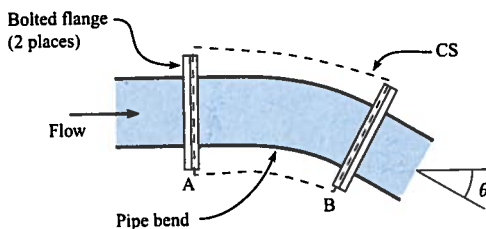

FIGURE 6.15
A **pipe bend** is a structural component that is used to turn through an angle (Fig. 6.15). A pipe bend is often connected to straight runs of pipe by flanges. A flange is a round disk with a hole in the center that slides over a pipe and is often welded in place. Flanges are bolted together to connect sections of pipe.
- **Tip 1.** Let each momentum flow equal $\dot{m}v$. For the bend in Fig. 6.15, the momentum inflow is $\dot{m}v_A$ and the outflow is $\dot{m}v_B$.
- **Tip 2.** Include pressure forces where the CS cuts through a pipe. In Fig. 6.15, there is a pressure force at section A: $F_A = p_A A_A$ and at section B: $F_B = p_B A_B$. As always, both pressure forces are compressive.